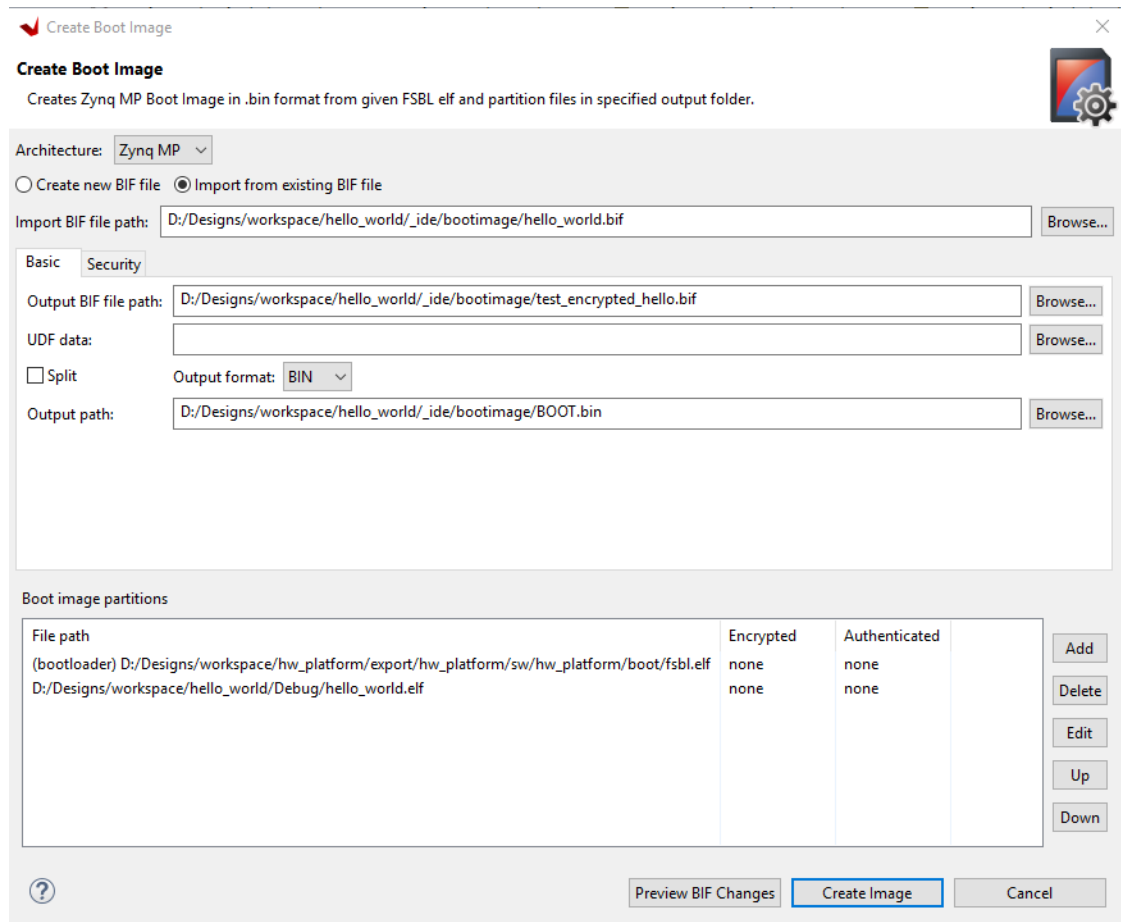

Figure 16: Create Boot Image for hello_world
5. Rename the output BIF file as `test_encrypted_hello.bif` (Figure 16), in the Output BIF file path field.